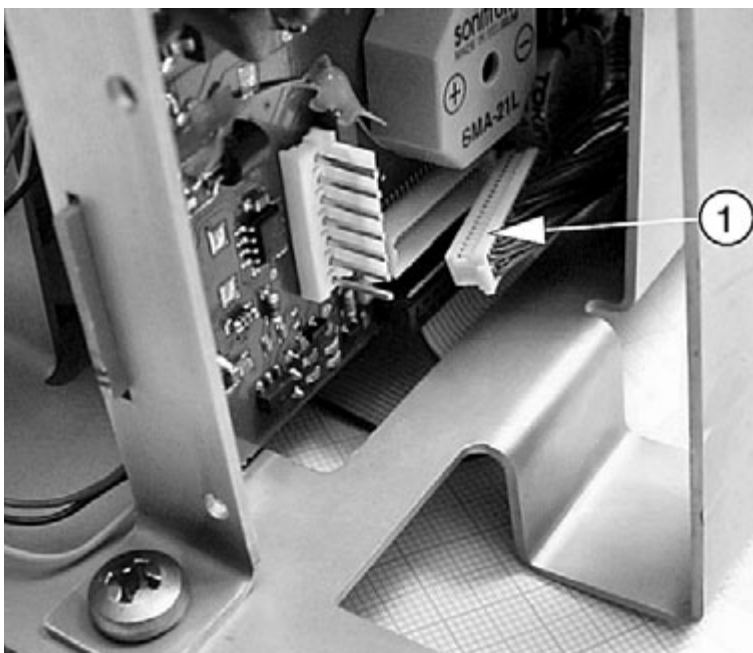

Fig. 7 ILCA module, cable harness (1) consisting of individual blue wires
- Pull the ILCA module slightly to the front and disconnect the cable harness (Fig. 7/1) consisting of individual blue wires from the underside of the VAMOS PCB (not easily accessible).
- Disconnect the cable harness consisting of individual blue wires (Fig. 7/1).